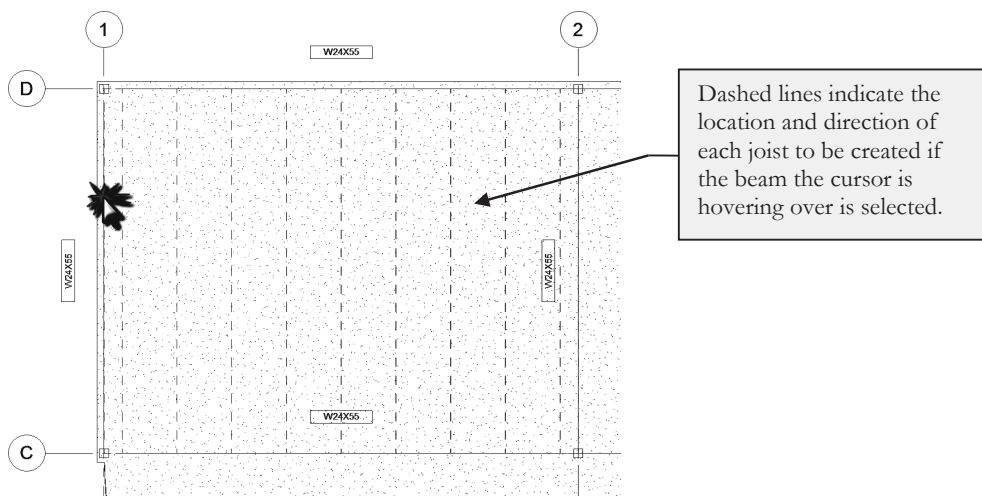

FIGURE 8-4.9 Creating a beam system for the bar joists
35. **Click** the beam along Grid 1 as shown in Figure 8-4.9.